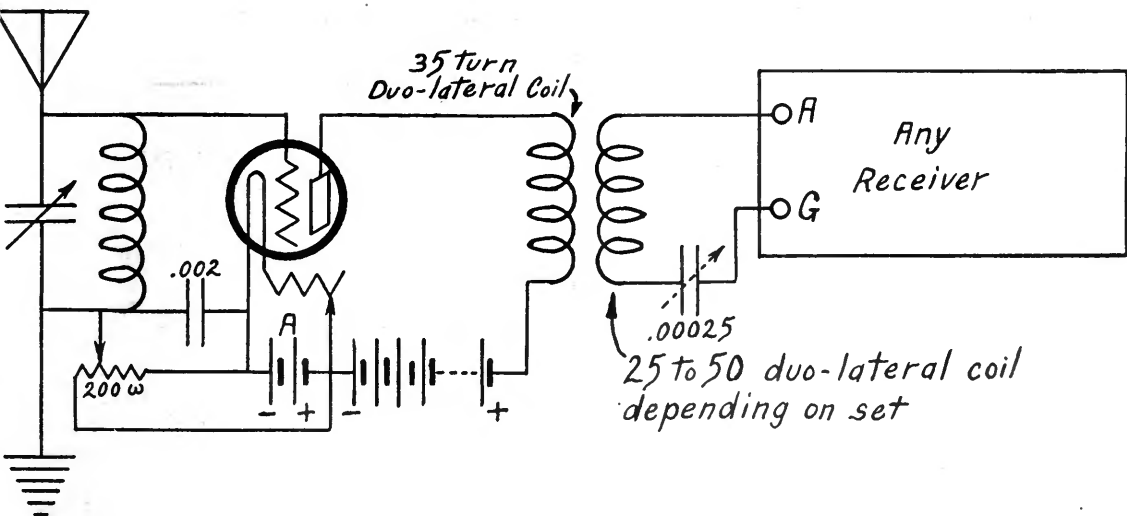

FIG. 10
**I**N ADDITION to the use of the wavemeter, of Fig. 1 as a wave trap, it may also be used as a stage of tuned radio frequency amplification in front of the receiver. The connections to accomplish this vary slightly with each receiving set, but in general, if the circuit shown in Fig. 10 is followed, good results will be obtained. When using the wavemeter as a stage of tuned radio frequency use only amplifier tubes and omit the grid condenser and leak. The use of a potentiometer on the grid return of the wavemeter is not always necessary, but is shown to make the set complete.